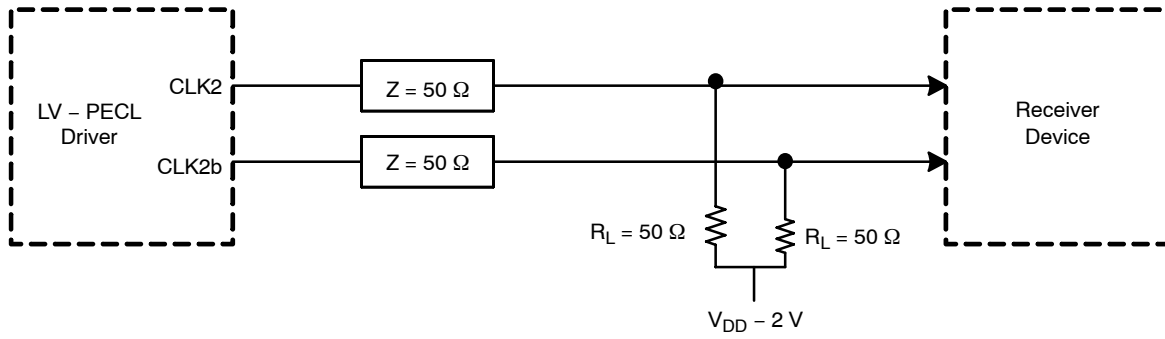

Figure 2. Typical Termination for Output Driver for Device Evaluation
5. Measurement taken with outputs terminated with 50 Ω to $V_{DD} - 2\text{ V}$. See Figure 2.